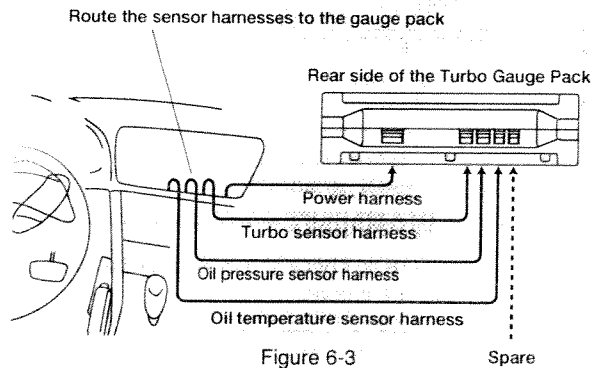

Figure 6-3
4. Connect the sensor harnesses and the power harness as shown in the figure. (Figure 6-3)